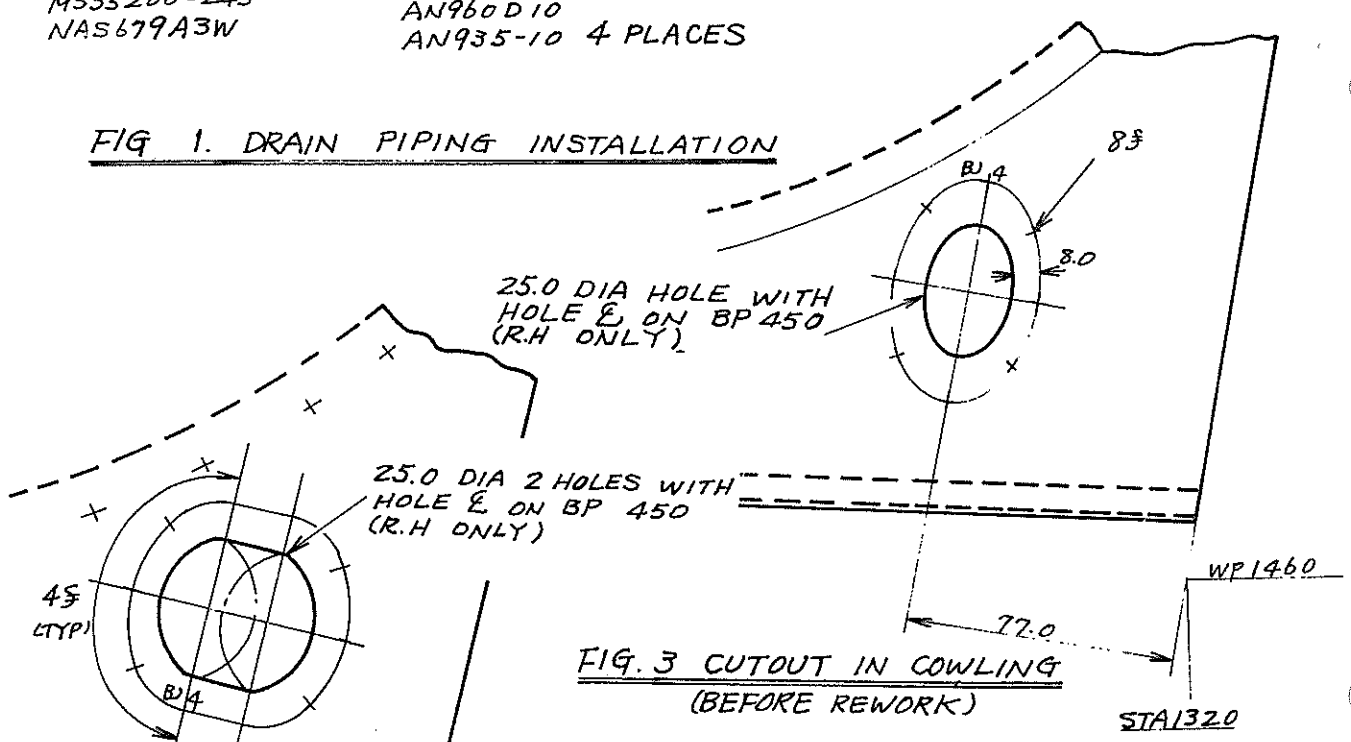

FIG. 2 CUTOUT IN COWLING (AFTER REWORK)
11. Rework lower cowling as shown in figure 2.